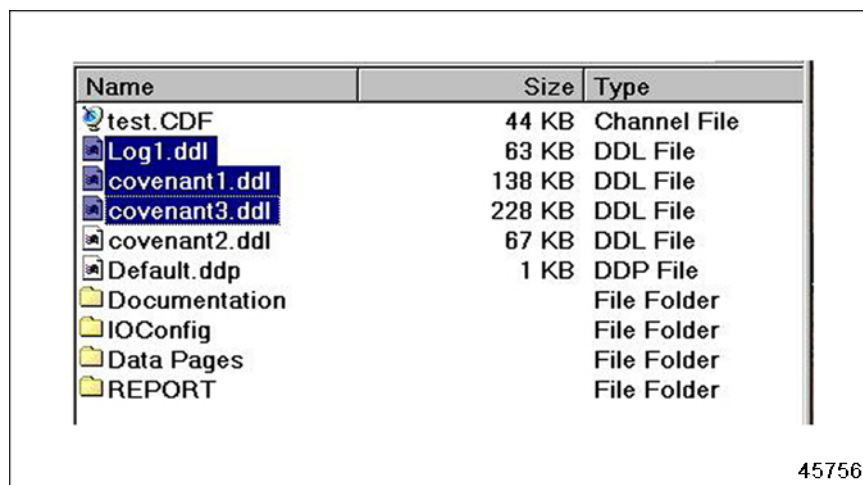

Figure 6-17 Selecting the Snapshot Files on the C:\ Drive
5. Select the file or files to attach to the E-mail. If the files are not lined up as shown, go up to the **View** drop-down menu in the file manager and choose **Details** from the list. This view makes it easier to work with them. Click once with the left mouse button to select a file. To select more files, hold down the **Control** key and click once more for each additional file. See Figure 6-17.